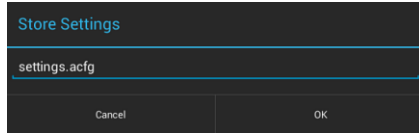

FIG. 113 Store Settings window
1. In the *Reset and Update* page, press **Store Settings** to open the *Store Settings* window (FIG. 113):